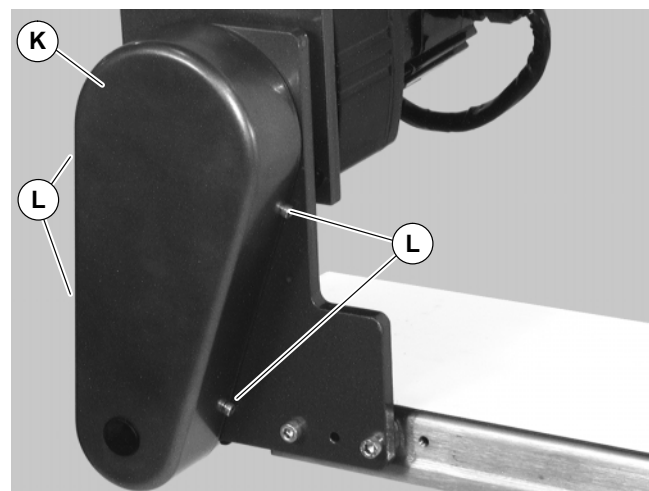

Figure 8
8. Install cover (K of Figure 8) with four (4) screws (L). Tighten to 35 in-lb (4 Nm).
1. Remove four (4) screws (L of Figure 8) and remove cover (K).
- Install cover (K of Figure 8) with four (4) screws (L). Tighten to 35 in-lb (4 Nm).
- Remove four (4) screws (L of Figure 8) and remove cover (K).
4. Remove four (4) screws (L of Figure 8) and remove cover (K).